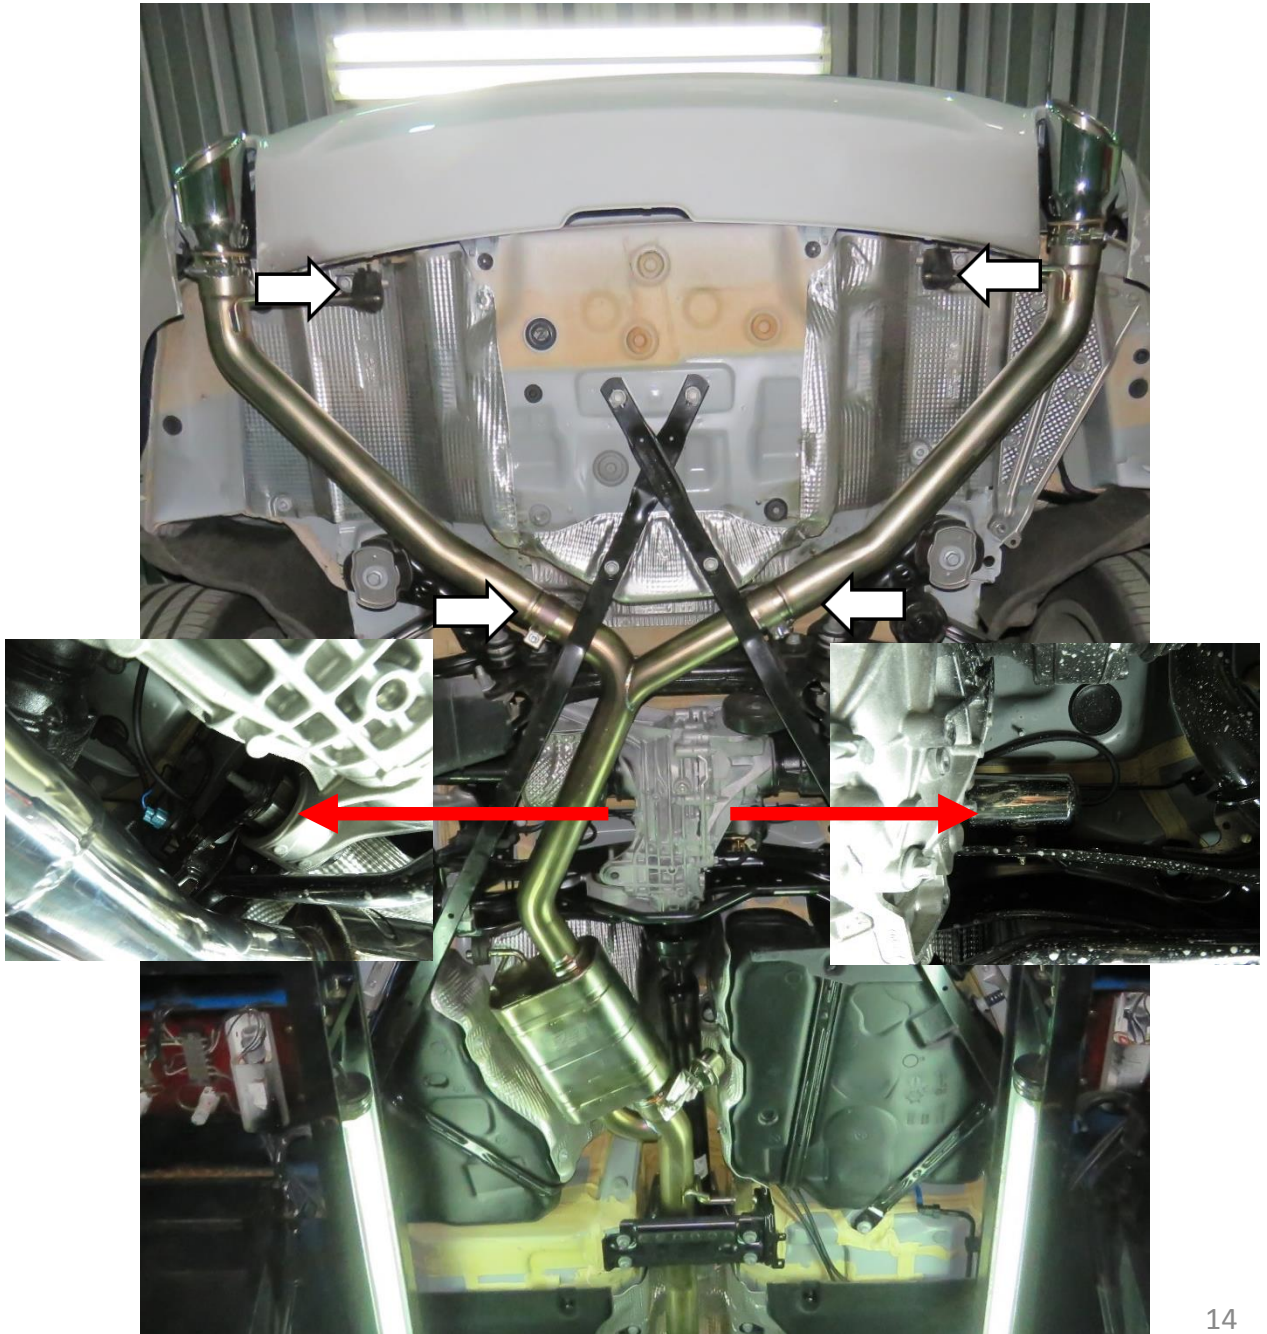

Figure 9
4. Install the muffler to the middle using original slide sleeve, gas cylinders and electronic valves are installed on the left and right sides of the differential (Figure 9).